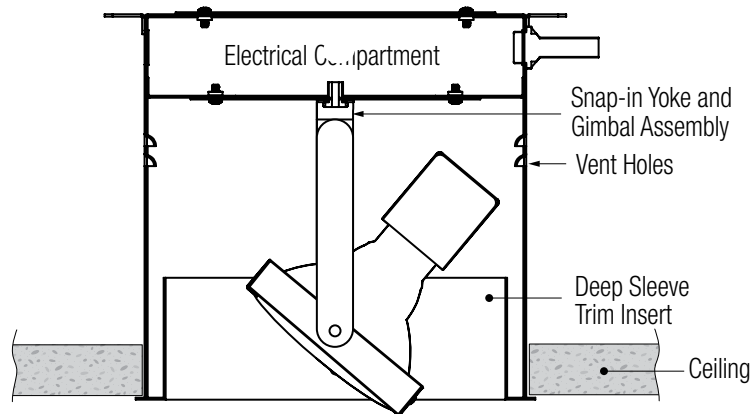

FIGURE 5
12. Install the ceiling material within .50" of housing trim as seen in *Fig 5*. A clean cut-out in the CEILING MATERIAL is optimal.